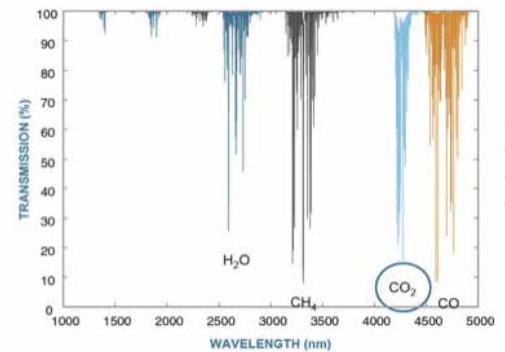

Figure 1. IR absorption of CO₂ and some other gases.
Carbon dioxide and other gases consisting of two or more dissimilar atoms absorb infrared (IR) radiation in a characteristic, unique manner. Such gases are detectable using IR techniques. Water vapor, methane, carbon dioxide, and carbon monoxide are examples of gases that can be measured with an IR sensor. Their characteristic absorption bands are shown in Figure 1.